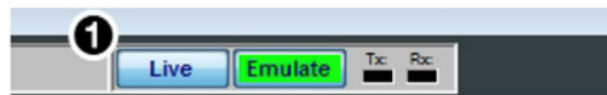

Figure 16. Live Button
2. Connect to a DMP 64 Plus in Live Mode by clicking the Live button in the menu bar of DSP Configurator (see figure 16, ❶). Alternatively, select **Tools > Connect to Device** or press F6 on the keyboard. The **Connect to Device** dialog box opens.